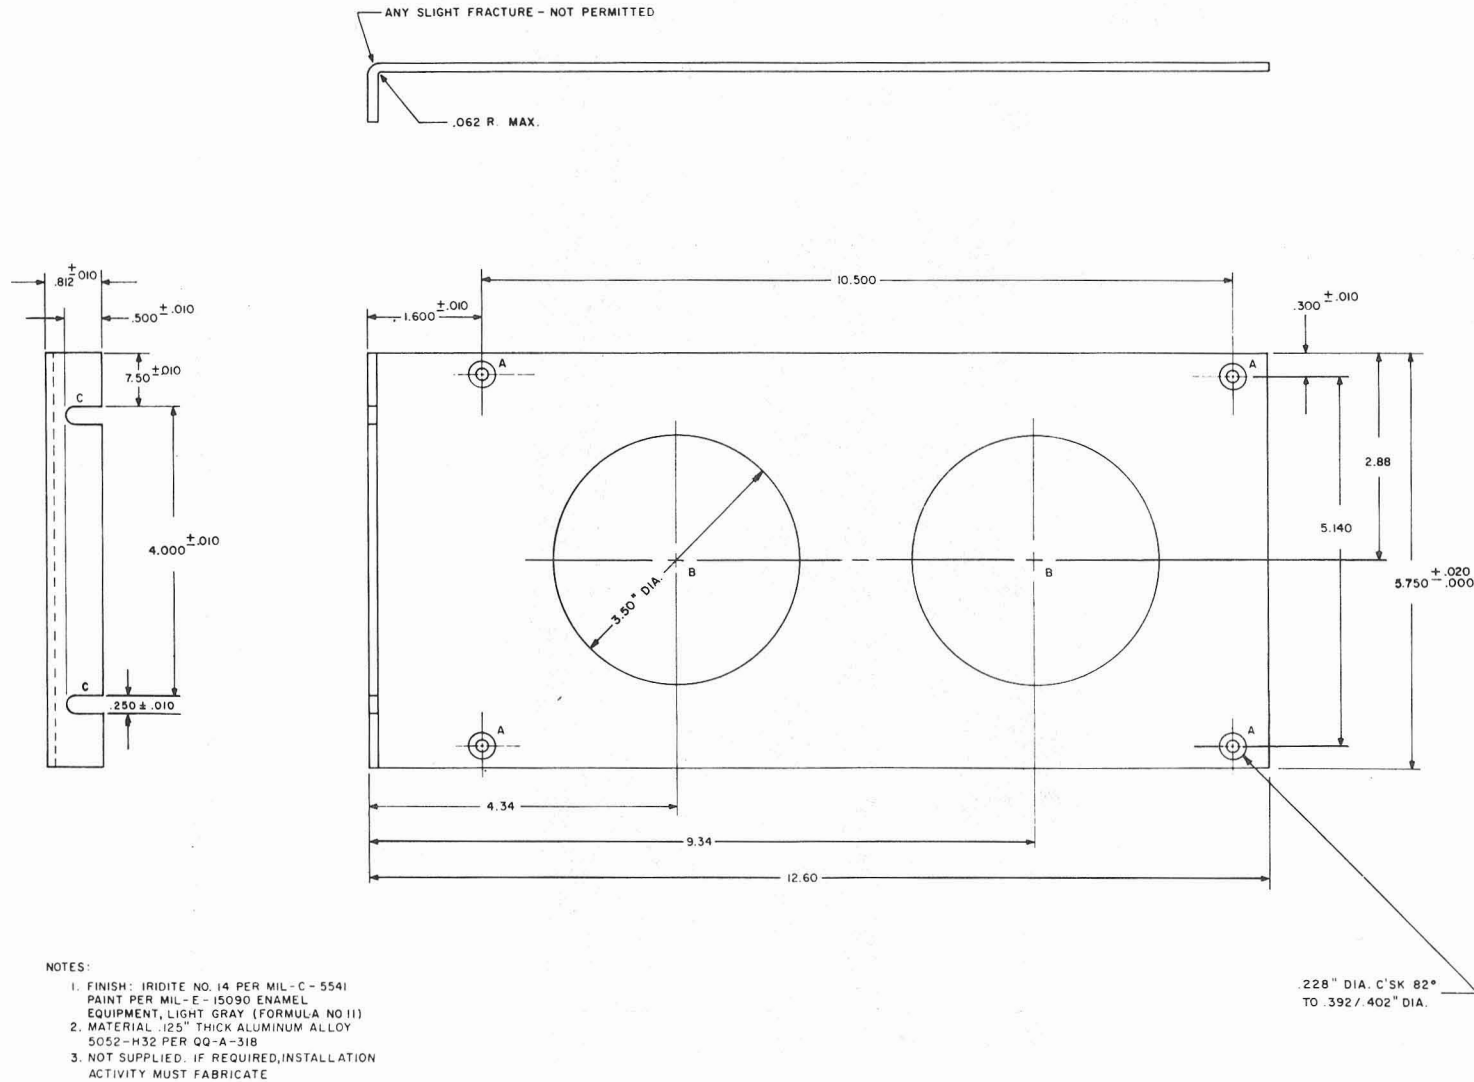
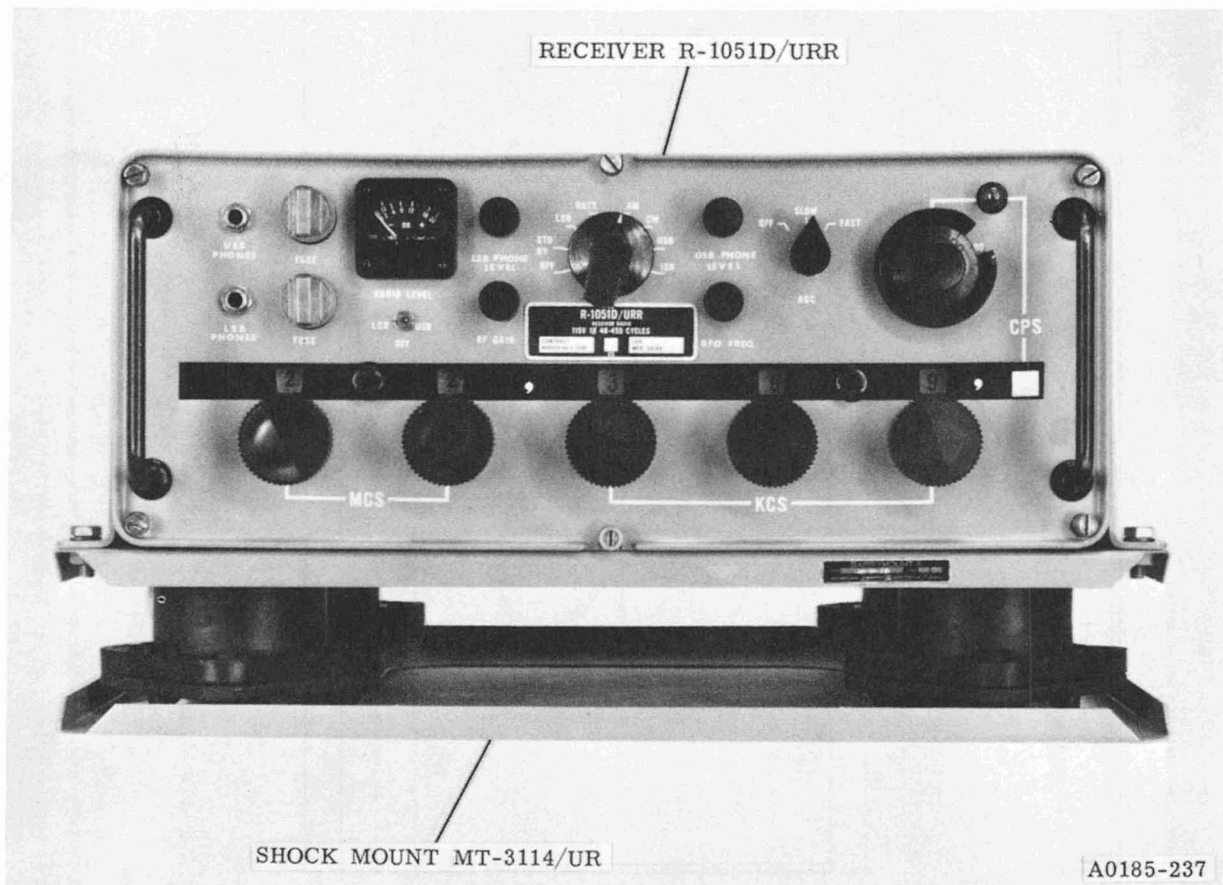

Figure 7-2. Radio Receiver R-1051D/URR, Mounting Bracket for Rack Mounting
Figure 7-3. Radio Receiver R-1051D/URR, Installation Diagram
- (1) Best operating conditions.
- (2) Ease of maintenance, adjustment of equipment, and replacement and repair of defective parts.
(3) Possibility of interaction between the R-1051D/URR and other electronic equipment in the vicinity.
(4) Critical and minimum cable length requirements.
(5) Adequate heat dissipation.
(6) Availability of a good system ground.
c. INSTALLATION. - The R-1051D/URR may be installed independently in any convenient location, using shock mount MT-3114/UR aboard ship. The R-1051D/URR may be mounted in a standard 19-inch rack. Adapter plates are used to install the R-1051D/URR in a standard 19-inch wide rack. For all required installation dimensions, see figure 7-1. Figure 7-2 illustrates the mounting bracket used for mounting the R-1051D/URR in a standard rack. Figure 7-3 illustrates mounting of the R-1051D/URR to the shock mount.